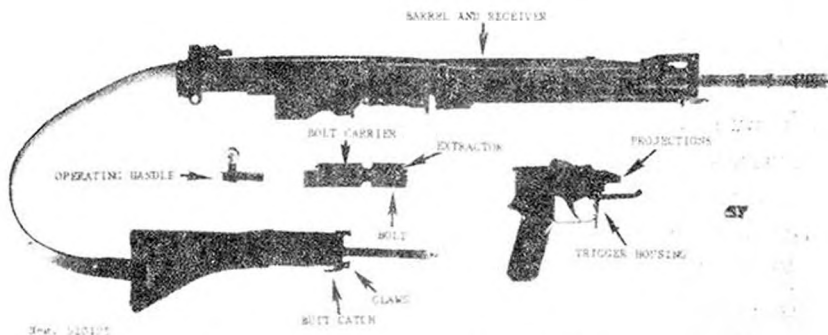

Figure 126. StG 57 disassembly.
b. Pull the operating handle rearward until the bolt can be grasped and pulled out of the back of the receiver. The operating handle will come off the receiver if the handle is aligned with its disassembly notches in the receiver (fig 126).
c. Press in on the head of the takedown pin (fig 122) and pull the pin out, to the right. It will not come fully out of the trigger housing (fig 126). Pull the trigger housing off the receiver.
e. To reassemble the rifle, engage the projections on the trigger housing (fig 126) with their seats on the sides of the receiver. Push the takedown pin fully home; it is necessary to press in the head to seat the pin fully.
h. Slide the butt stock claws (fig 126) over the rear of the receiver. The stock must be twisted out of line with the receiver as this is done. Be sure that the point of the driving spring seats in the recess in the bolt, then twist the butt stock onto the receiver until the butt lock snaps into place. Clear the weapon as described in paragraph 164f.